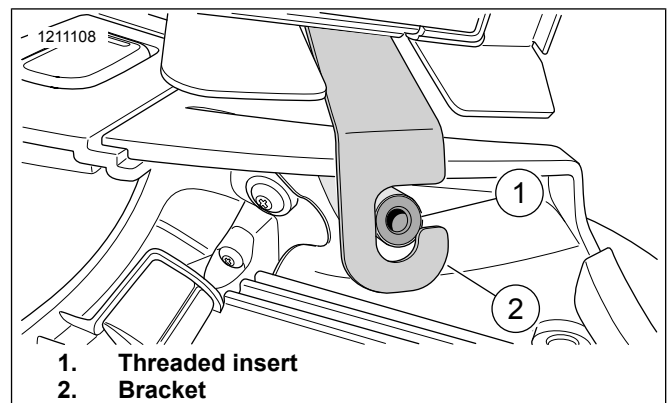

Figure 7. Bracket and Threaded Insert (Left Shown, Right Similar)
9. See Figure 7. Verify mounting brackets (2) are fully seated around the threaded insert (1).